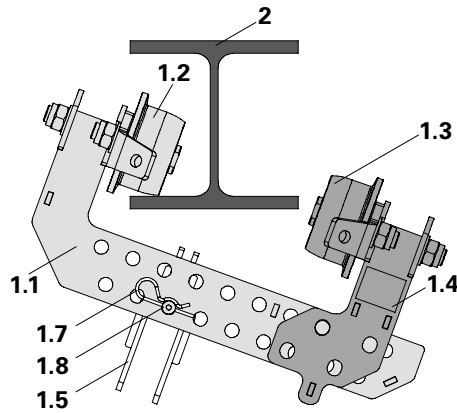

Fig. A2.01
When mounting the Trolley UFS 20, ensure that the standard support (1.5) is secured by means of bolts (1.8) and cotter pins (1.7) in order to prevent any movement. Then remove the bolt (1.6) of the movable arm (1.4) on the ground. Move the moveable arm (1.4) so that the opening between the flanged wheels (1.2/1.3) is large enough to encompass the flange of the steel girder (2). (Fig. A2.01)